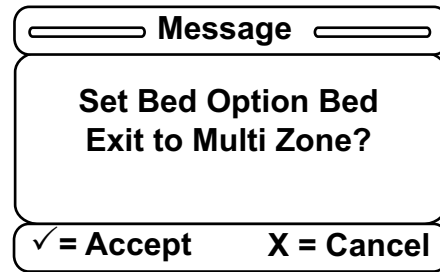

Figure 37 – Confirmation screen
- After you select one of the items, a confirmation screen will be displayed. The confirmation screen text will vary based on the item that you selected. The confirmation screen indicates that you chose the Multi Zone Bed Exit option (Figure 37). Press **Enter** on the footboard panel to confirm your Bed Exit option or **Exit** to cancel the operation.